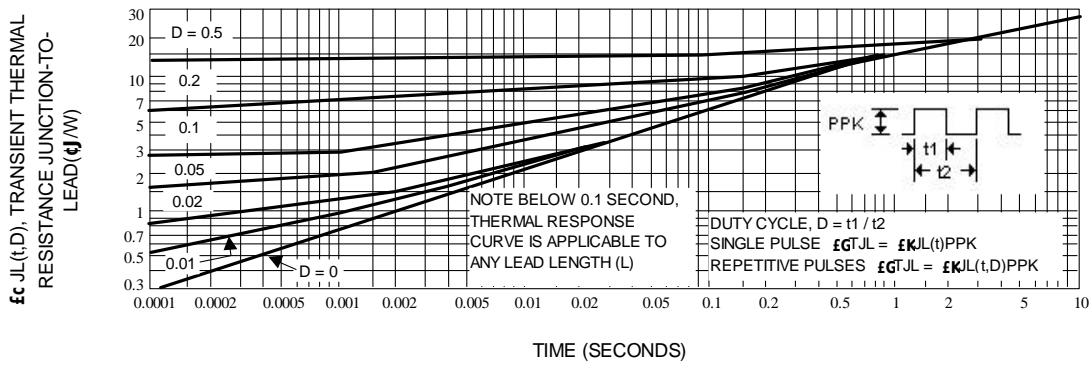
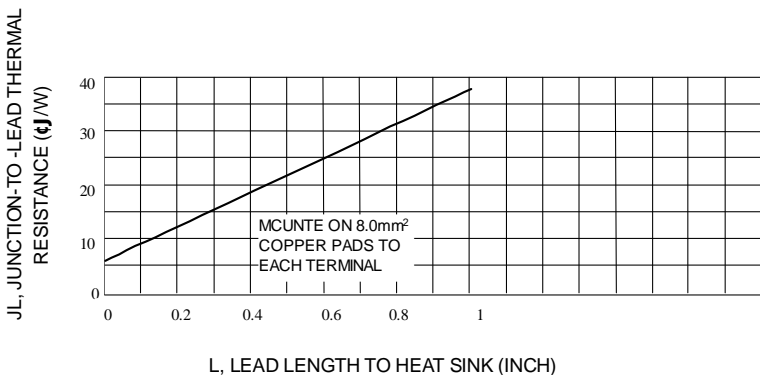
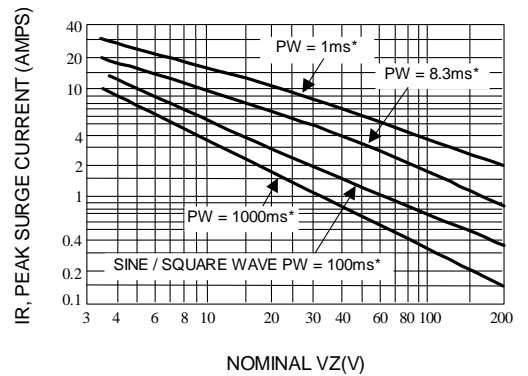
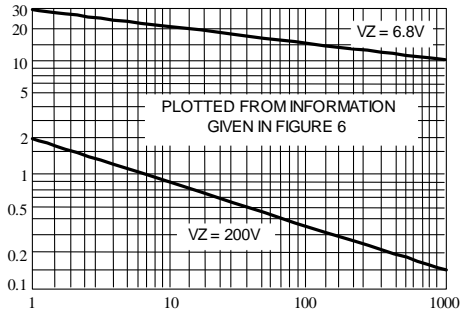

Fig. 3-TYPICAL THERMAL RESPONSE
Fig. 4-TYPICAL THERMAL RESISTANCE
Fig. 5-MAXIMUM NON-REPETITIVE SURGE CURRENT VERSUS NOMINAL ZENER VOLTAGE (SEE NOTE 3)
Fig. 6-PEAK SURGE CURRENT VERSUS PULSE WIDTH(SEE NOTE 3)
3. SURGE CURRENT (I_r) - Surge current is specified as the maximum allowable peak, non-recurrent square-wave current with a pulse width, PW, of 8.3 ms. The data given in Figure 5 may be used to find the maximum surge current for a square wave of any pulse width between 1 ms and 1000ms by plotting the applicable points on logarithmic paper. Examples of this, using the 6.8v and 200V zeners, are shown in Figure 6. Mounting contact located as specified in Note 3. ($T_A=25^\circ\text{C}$).
θ_{JT} is the increase in junction temperature above the lead temperature and may be found from Figure 3 for a train of power pulses or from Figure 4 for dc power.
Data of Figure 3 should not be used to compute surge capability. Surge limitations are given in Figure 5. They are lower than would be expected by considering only junction temperature, as current crowding effects cause temperatures to be extremely high in small spots resulting in device degradation should the limits of Figure 5 be exceeded.
*** Data of Figure 3 should not be used to compute surge capability. Surge limitations are given in Figure 5. They are lower than would be expected by considering only junction temperature, as current crowding effects cause temperatures to be extremely high in small spots resulting in device degradation should the limits of Figure. 5 be exceeded